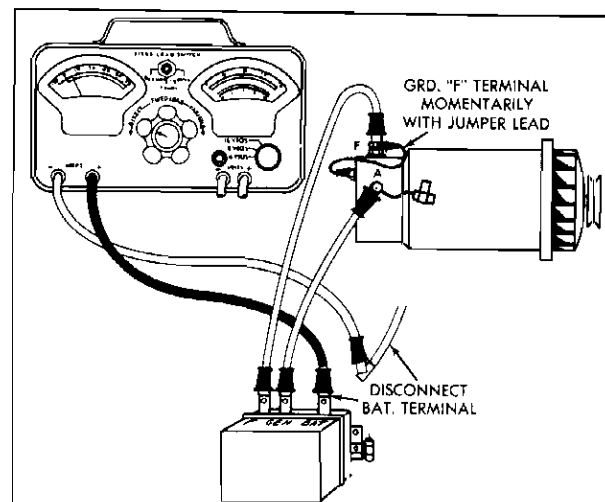

Fig. 11-16 Testing for Oxidized Points
3. Ground the "F" terminal momentarily with jumper lead. Fig. 11-16.